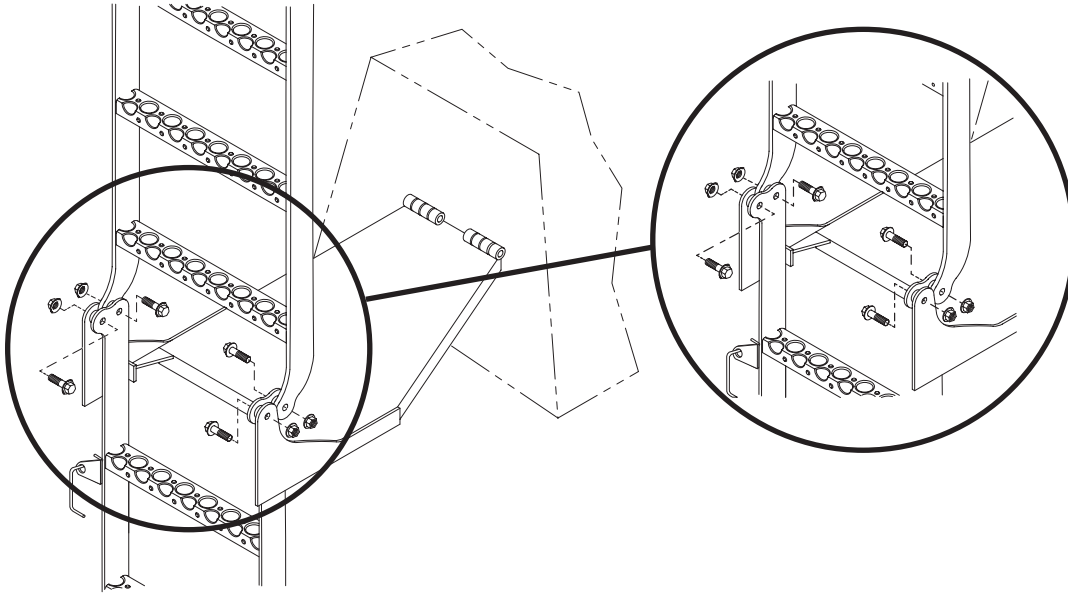

Figure 3: Remove and discard the (4) bolts and (4) nuts from the ladder side of the platform.
- The platform is secured to the upper ladder by (2) bolts and (2) nuts, to the lower ladder by (2) bolts and (2) nuts, and to the rear platform by (2) bolts and (2) nuts.
2. Lower the fold-down ladder. While the second person is holding up the platform and holding onto the fold-down ladder, the first person should remove and discard the front (4) bolts and (4) nuts from the platform on the **ladder side** (see Figure 3 which shows removal from one side only).